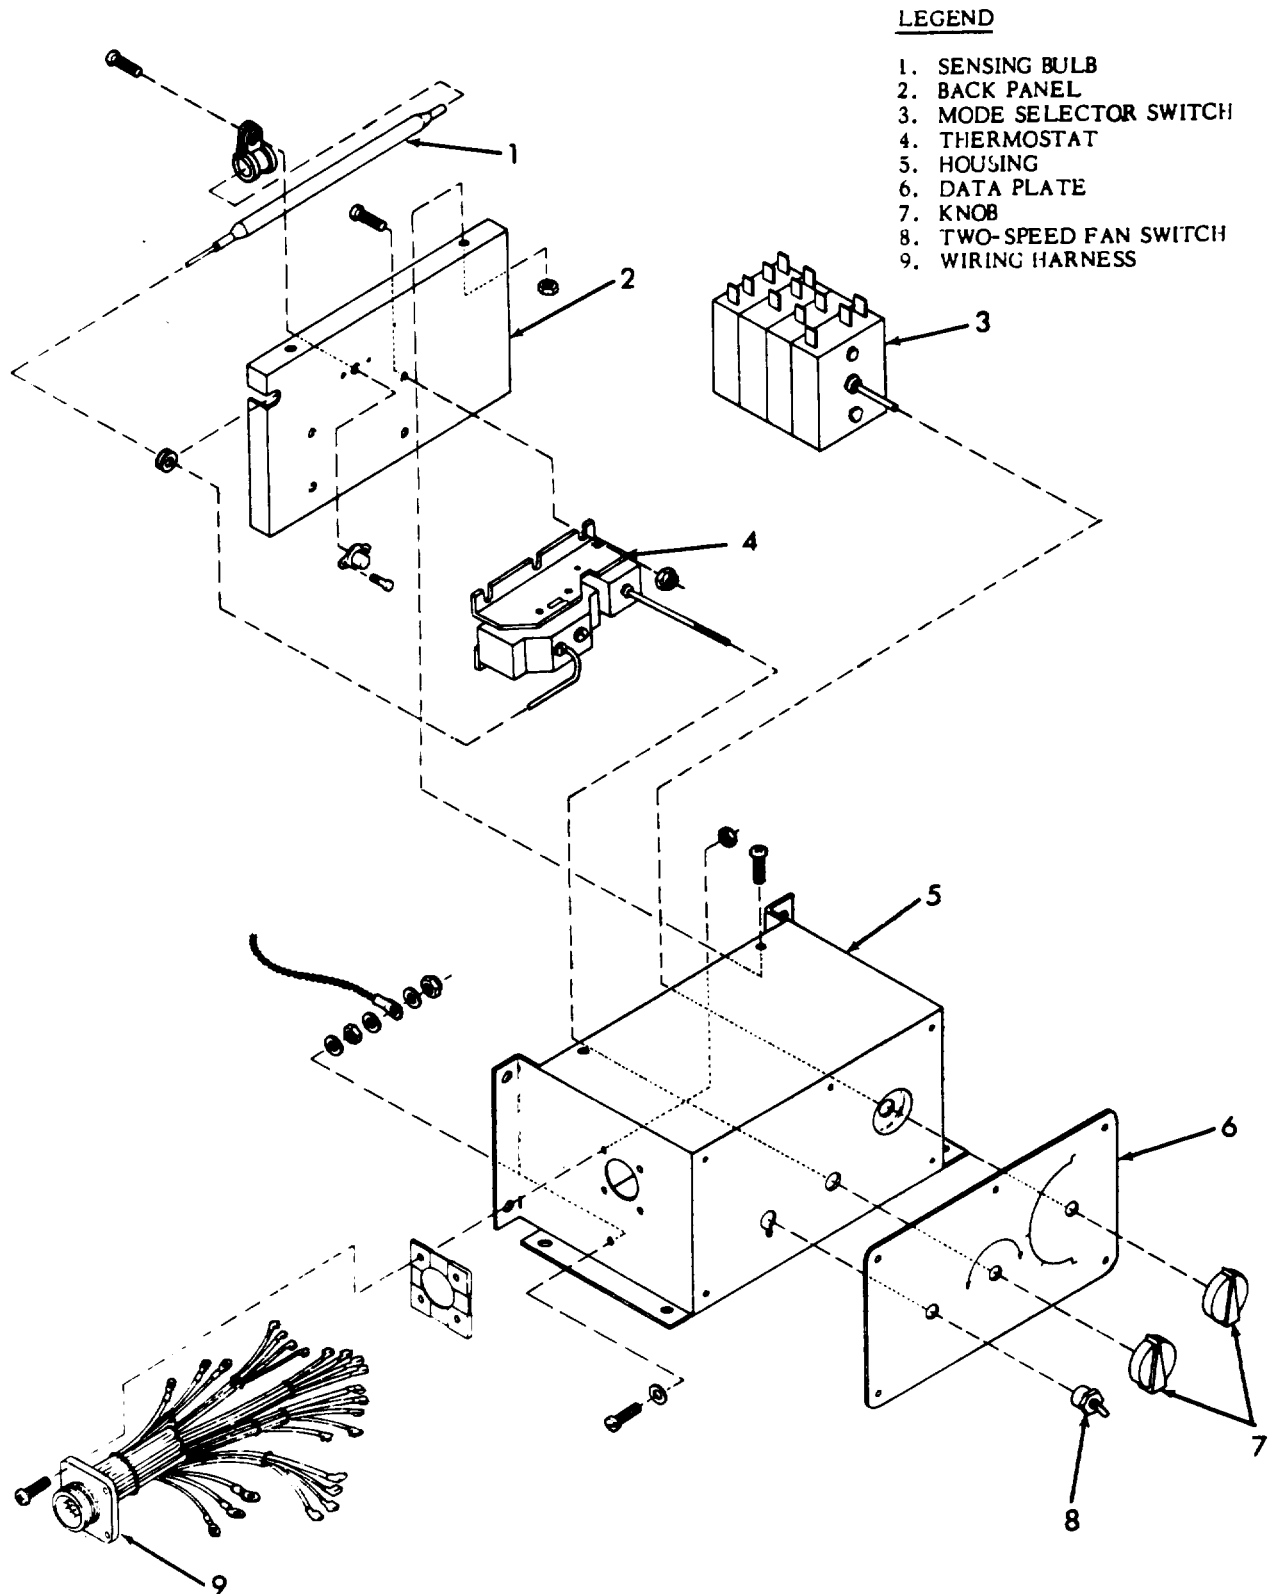

Figure 5-1. Control Panel Details.
5.1. Description (See figure 5-1).